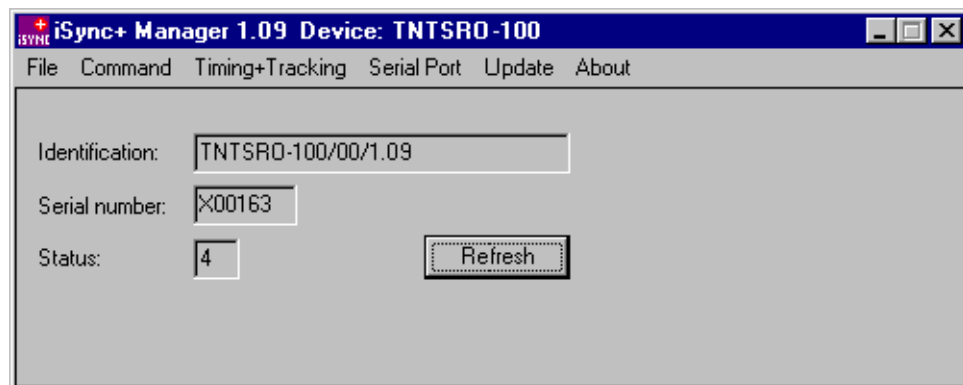

Figure 1 - iSyncMgr.exe
- Once the serial port number is properly working, click on the "Refresh" button. The Identification, Serial Number and Status of the smart SRO rubidium clock inside the GPSReference should be displayed as Figure 1 below: